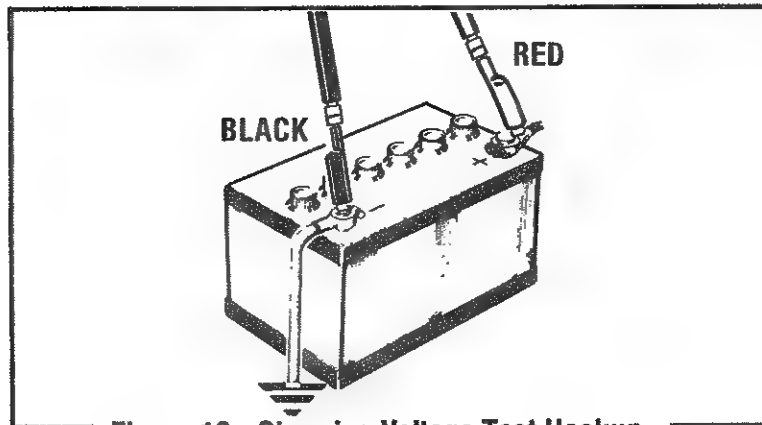

Figure 10. Charging Voltage Test Hookup.
2. Connect Red test clip to positive (+) battery terminal and Black test clip to negative (—) battery terminal (figure 10).